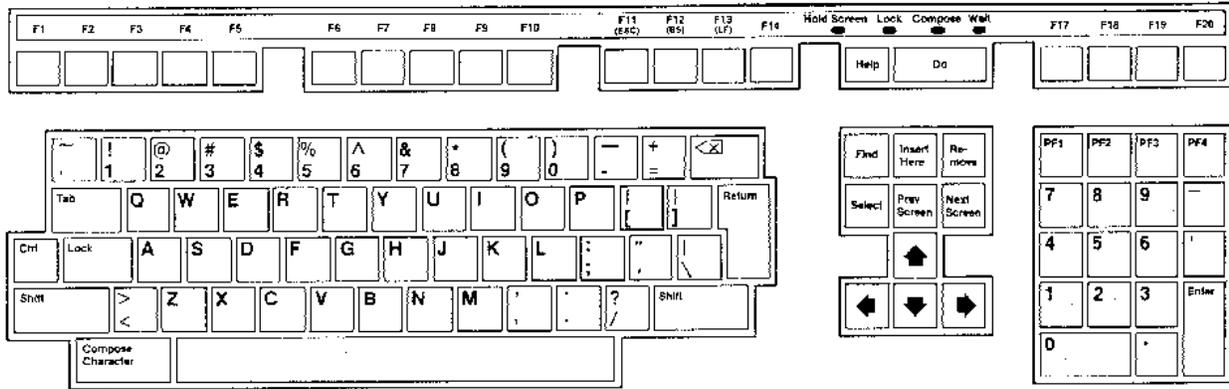

FIGURE 2 - KEYBOARD
The System Manager uses a standard keyboard (Figure 2). Through the use of the cursor (arrow) keys and the various function (F) keys, you will be able to enter or change information. A highlighted bar on each screen will show you which field is active and ready to receive information. A blinking cursor within the highlighted area shows you where the next character will be typed.